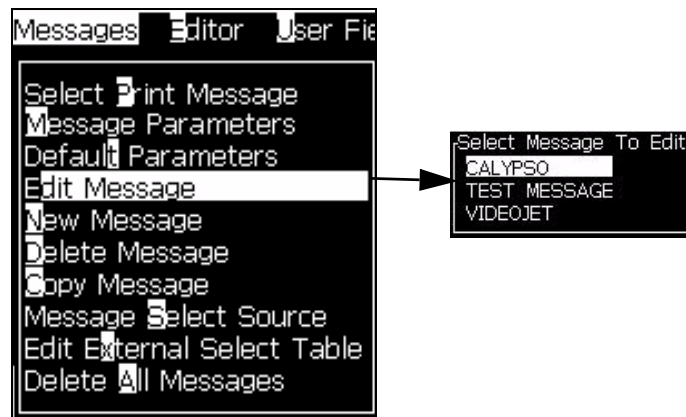

Figure 5-21: Edit Message Option
- 2 Select *Edit Message*. The *Select Message To Edit* dialog box appears. Refer to Figure 5-21.